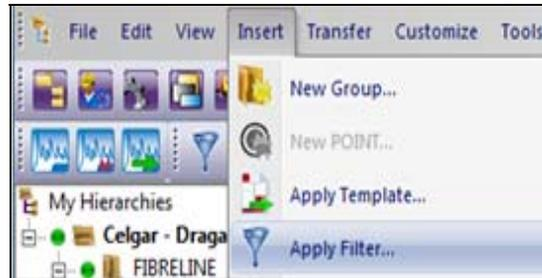

Figure 2. Insert filter
- Next, click the filter icon  or else from the menu options, select **Insert > Apply Filter**. [Figure 2]